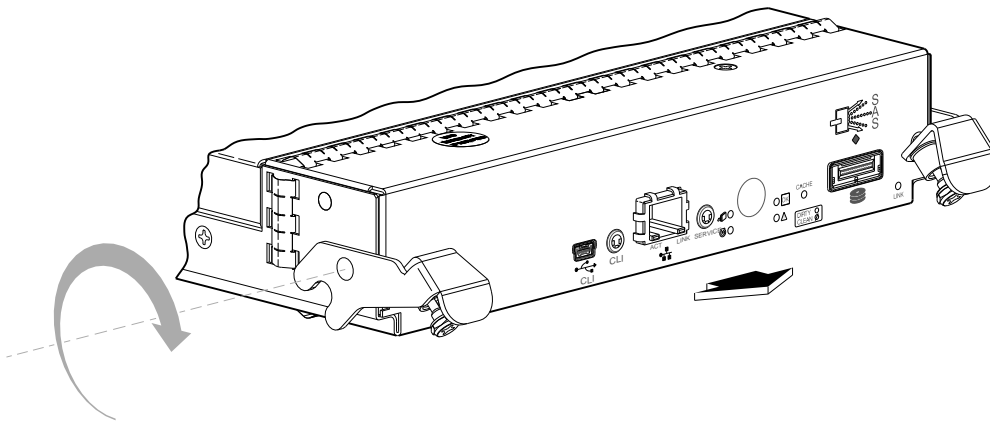

Figure 2 Disconnecting a controller module
- 5 Press both latches downward to disconnect the controller module from the midplane (see Figure 2).